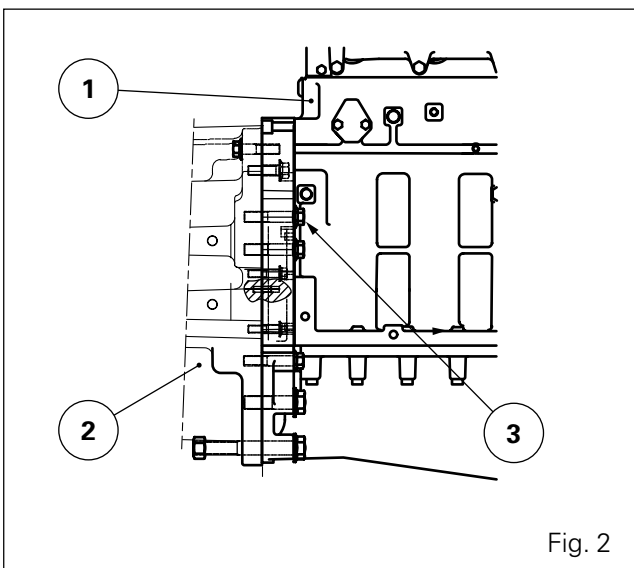

Fig. 2
16. Remove screws (3) placed either side of the engine (1) and gearbox (2) (Fig. 2 or 3 depending on version). Replace with two guide studs of suitable length.